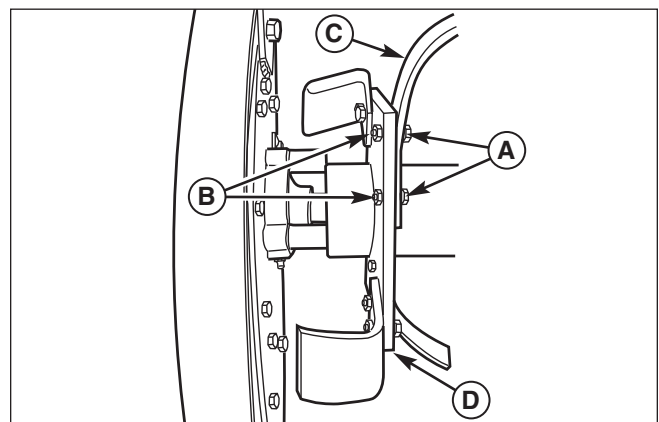

Figure 21. Tine Replacement
1. Remove two capscrews (A, Figure 21) and locknuts (B).
2. Remove old tine (C) from tiller.
3. Place new tine on mounting plate (D). When facing front of tiller, be sure tine curves away from mounting plate with its sharp edge facing rearward when tine nears bottom of travel.
4. Insert two capscrews (A) through tine and then through mounting plate (D). Install and tighten locknuts (B) to 30 lb-ft (40 Nm).